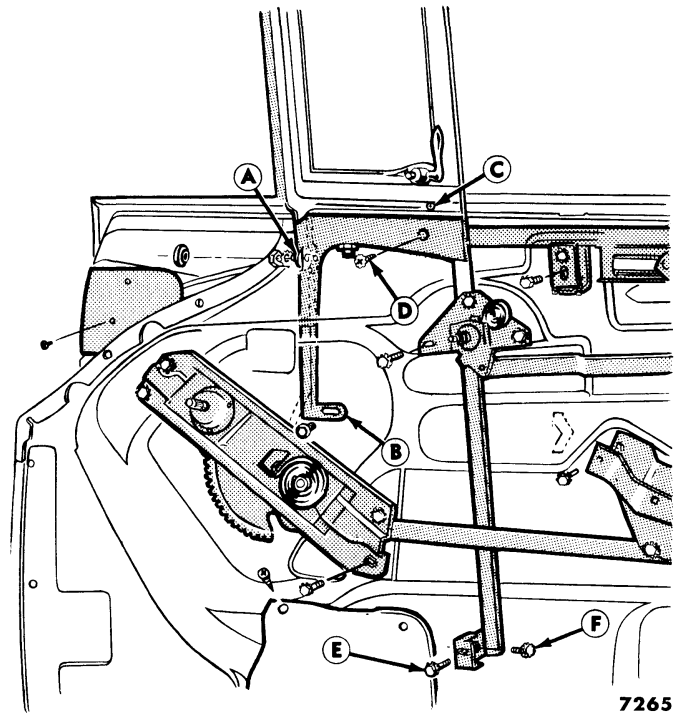

Fig. 12—Vent Assembly—Convertible and Victoria
(b) **CONVERTIBLE AND VICTORIA.** Remove the garnish moulding and door trim panel. To remove the ventilator assembly from the convertible and Victoria, it is necessary to remove the door glass first. Remove the nuts from the shoulder bolts at points "A" and "B," and the screws at points "C," "D," "E," and "F" (fig. 12).
To install, position the assembly in the door and attach the front leg of the casting to the door inner panel reinforcement at point "A" and to the door inner panel at point "B" (fig. 12). Install the nuts and washers on the shoulder bolts. Assemble the extension to the division bar bracket and install the retaining screws at "C," "D," "E," and "F" (fig. 12). Install the door glass. Adjust the division bar to the door glass as outlined in section 5.
(1) **VENTILATOR ASSEMBLY ADJUSTMENT.** Before making any adjustment, loosen the screws at points "C", "D" and "E" and the lock nuts on the slotted shoulder bolts at points "A" and "B" (figs. 12 and 20).